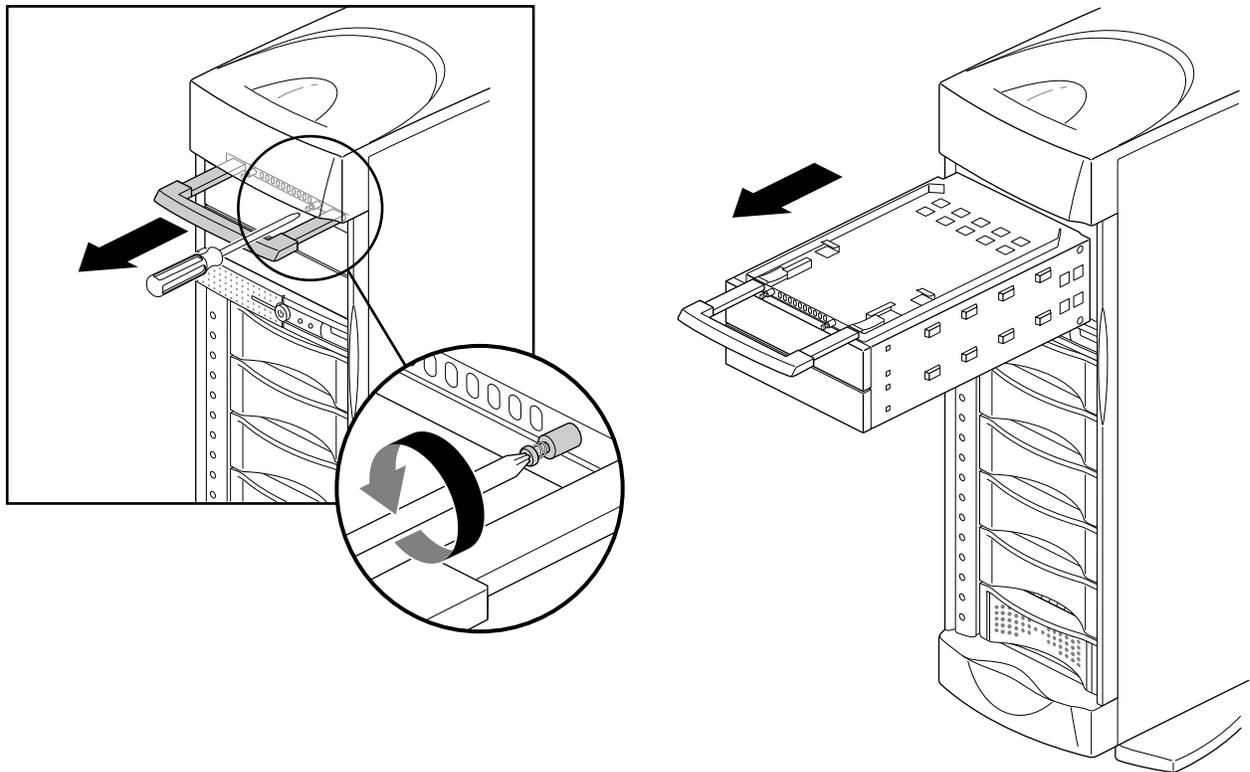

Figure 6-2 Removing the 5.25-Inch Peripheral Carrier
2. Remove the peripheral carrier, as shown in Figure 6-2.